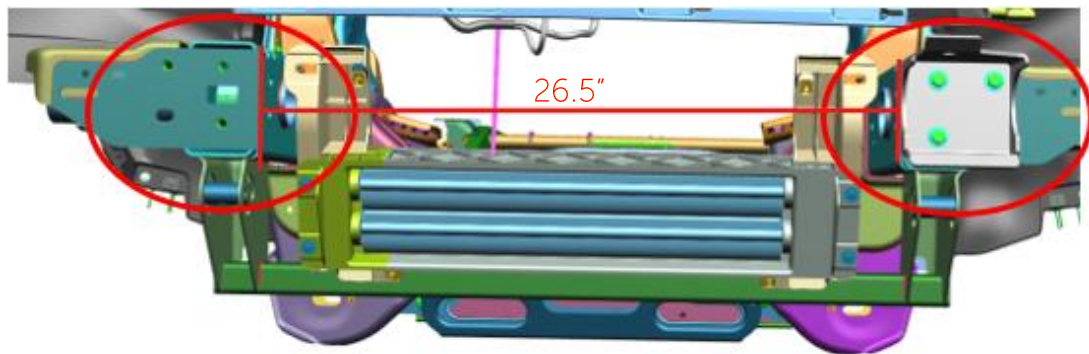

Figure 6 - Driver side Attached / Passenger side Un-Attached
- b. Using [6] M10 bolts (11588738), loosely install AEV frame brackets to frame horn of vehicle on each side - Fig. 6
- iii. Inside edge of both AEV Frame Brackets should measure 26.5" – Fig. 6